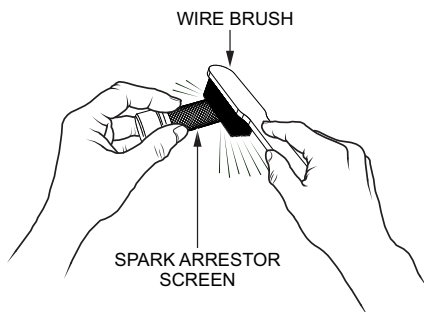

Figure 36. Cleaning The Spark Arrester
2. Remove the 5 mm screw (4) from the muffler protector, then remove the muffler protector.
3. Carefully remove carbon deposits from the spark arrester screen (Figure 36) with a wire brush